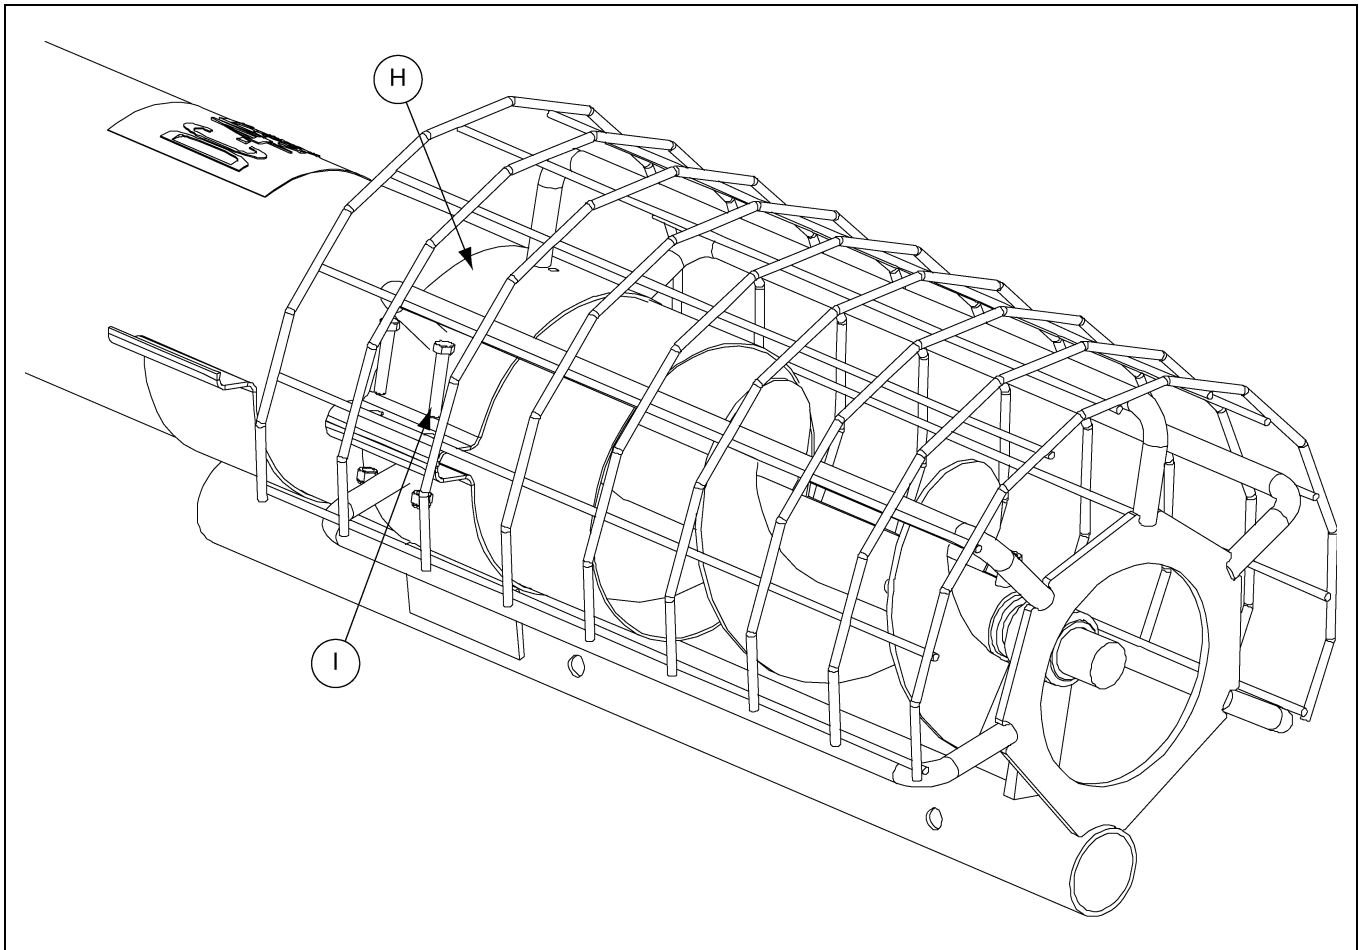

Figure 4I
3. Attach the intake guard (C) to the tube (A) using the proper hex bolts (I) and nylock nuts (J) through the half bands (H) that are welded to the intake guard (C). (*See Chart* and *See Figure 4I.*)